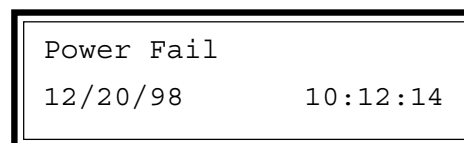

Figure 6-6 Initial Front Panel Screen
2. The screen on the front panel (Figure 6-6) shows the date and time of the last power loss.